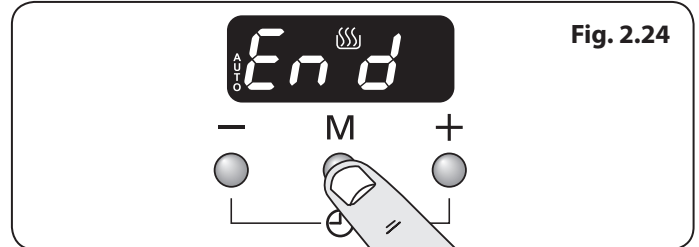
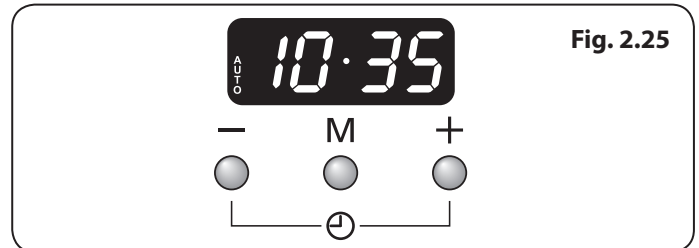

Fig. 2.24
Fig. 2.25
2. Press the mode [M] button until the display flashes (End) (**Fig. 2.24**). Then set the 'stop time' using the [+] or [-] buttons. Current time will be displayed along with the word 'AUTO' (**Fig. 2.25**).